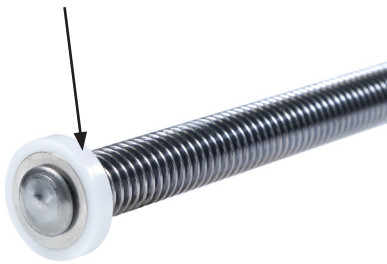

Figure 2
2. To avoid off-centre load or even damage to the actuator, the mechanical endstop must be fixed to the application (see Fig. 2 below).